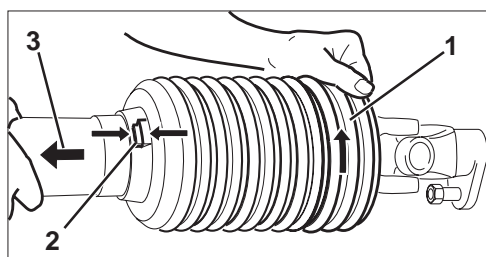

Fig. 5.3
- Twist cone (Fig. 5.3/1) into fitting position (Fig. 5.3/2).
- Pull off (Fig. 5.3/3) protective half.